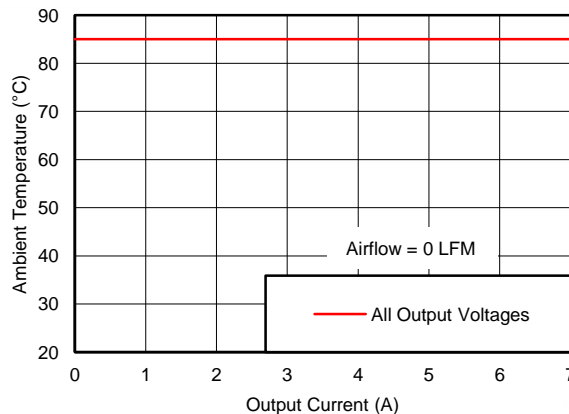

Figure 10. Safe Operating Area
- (2) The temperature derating curves represent the conditions at which internal components are at or below the manufacturer's maximum operating temperatures. Derating limits apply to devices soldered directly to a 100 mm x 100 mm, 4-layer PCB with 2 oz. copper. Applies to Figure 10.